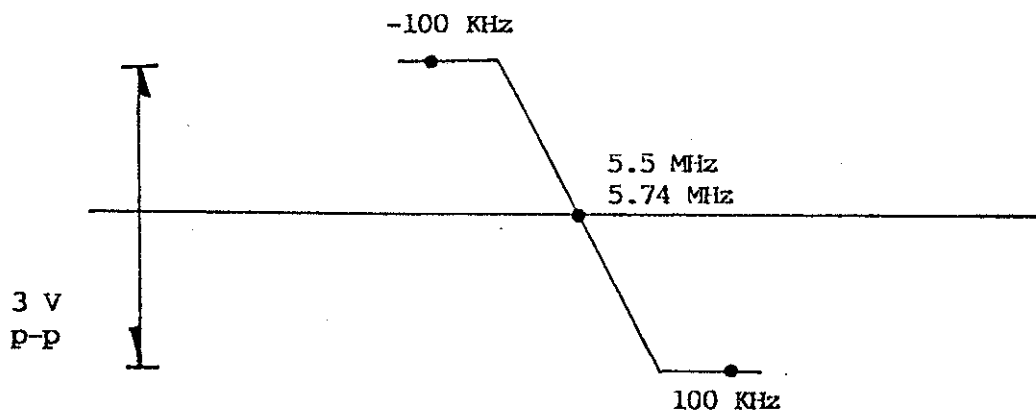

Fig. 5
- (v) Adjust T104 and T102 to obtain the waveform as Fig.5.